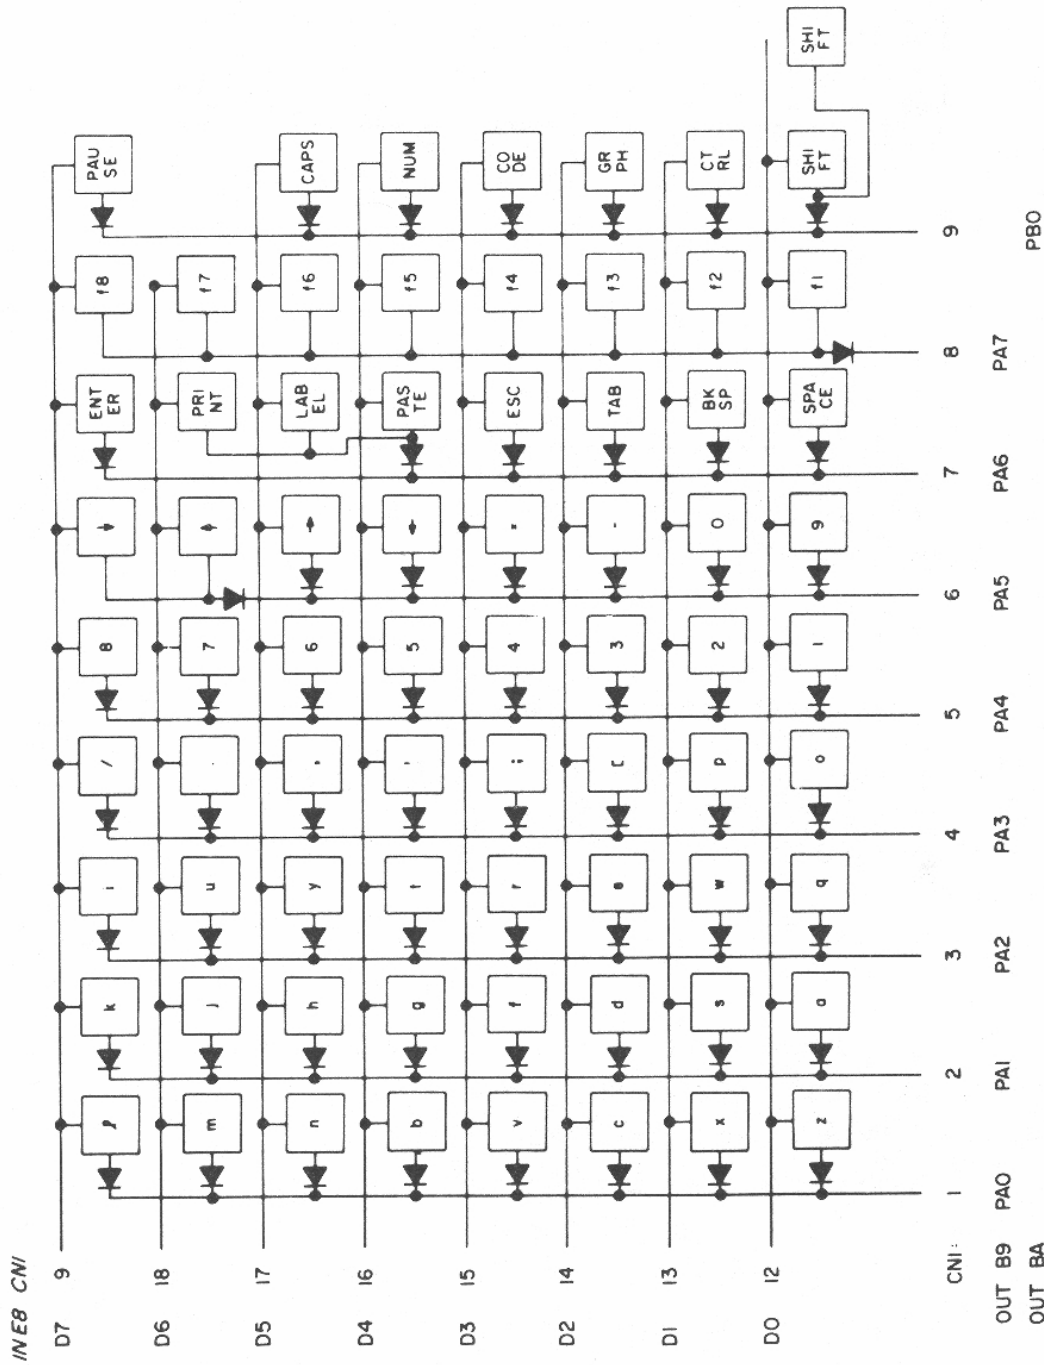

Figure 6.1. Keyboard array
The electrical layout of the seventy-two keys is an eight-by-nine array, as shown in figure 6.1. Sixty-four keys lie in the main array and are scanned together. They appear in table 6.2. The eight remaining keys, most of which modify other keys, appear in table 6.3.
Sometimes all you want to know is whether a key has been pressed. This can be accomplished by sending a "0" to output port B9 and a "0" to bit 0 of output port BA. If input port E8 has the value FF (255), a key has not been pressed. You can see this in figure 6.1. Sending "0's" to the output port sets all nine columns low. If a key had been pressed, then one of the eight data lines at the input port would be low, or logic "0". The numerical value of the input port would be something other than all "1's" (FF, or 255 decimal).